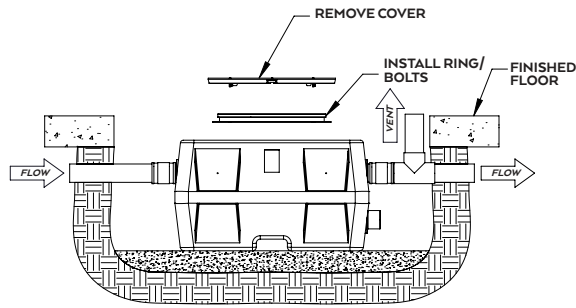

FIGURE 1
2. If unit is to be buried: Once unit is set so that the pipe connections line up with jobsite piping, measure total riser height needed from top of cover to finished grade. Make sure you include any future tile work, etc. that may be installed in your finished grade measurements. See figure 1.
3. Once unit is set so that pipe connections line up with jobsite piping, remove cover from unit. Fasten yellow gasketed ring to unit with hardware provided in separate riser kit. Ring flange with 4 bolt notches faces down against the unit. See Figure 1.